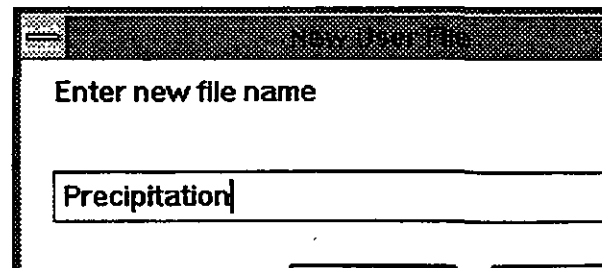

Figure 18-3
4. Select **New User File**. GWW opens a dialogue box as shown in Figure 18-3 prompting